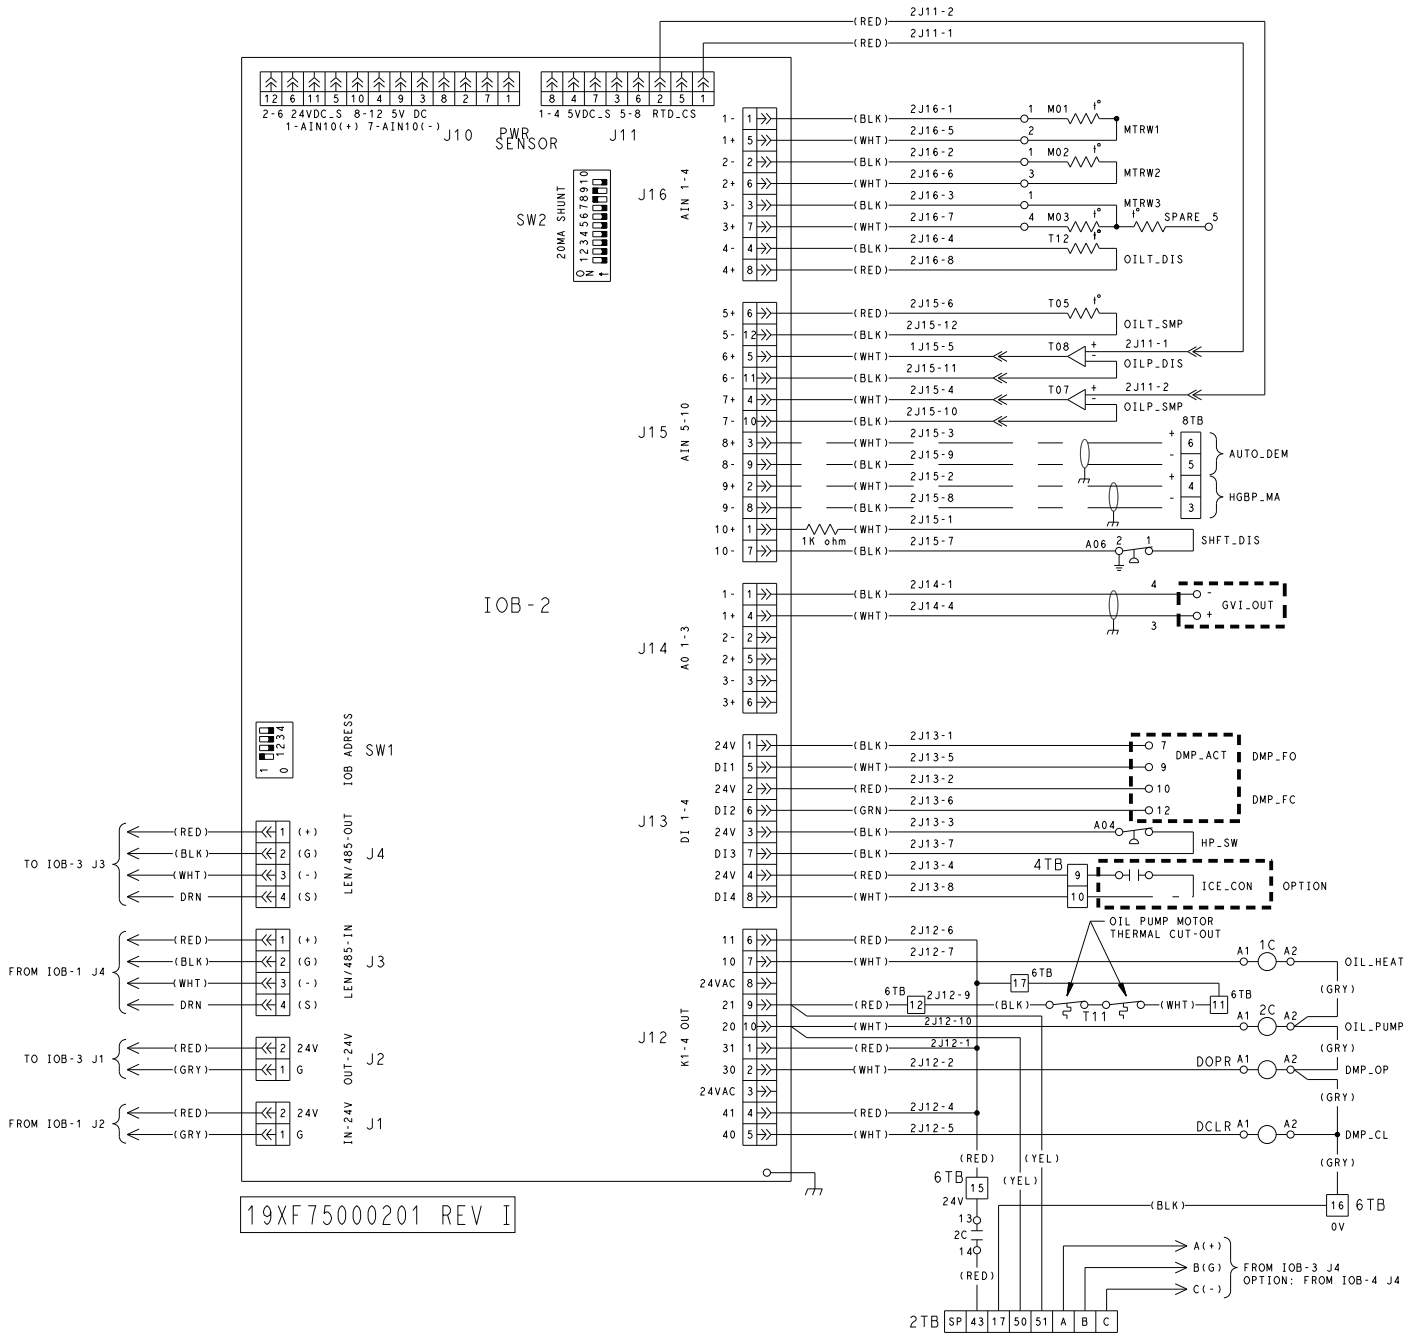

Fig. 13 — 19XR6/7 IOB2
1. See Fig. 13 for IOB2 wiring diagram.
2. For pressure readings, only Vout (output) terminal is indicated. See Fig. 13 for Vin (+) and ground (-).